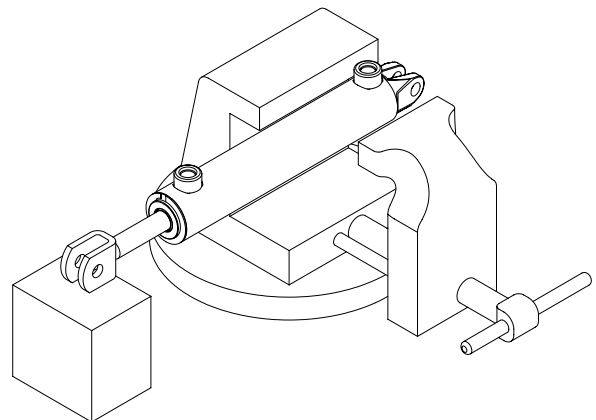

Figure 3-1, Cylinder Vise
2. Clamp the cylinder lightly at the base end in a soft jawed vise. Use a block or other support under the rod end of the cylinder. (Figure 3-1)